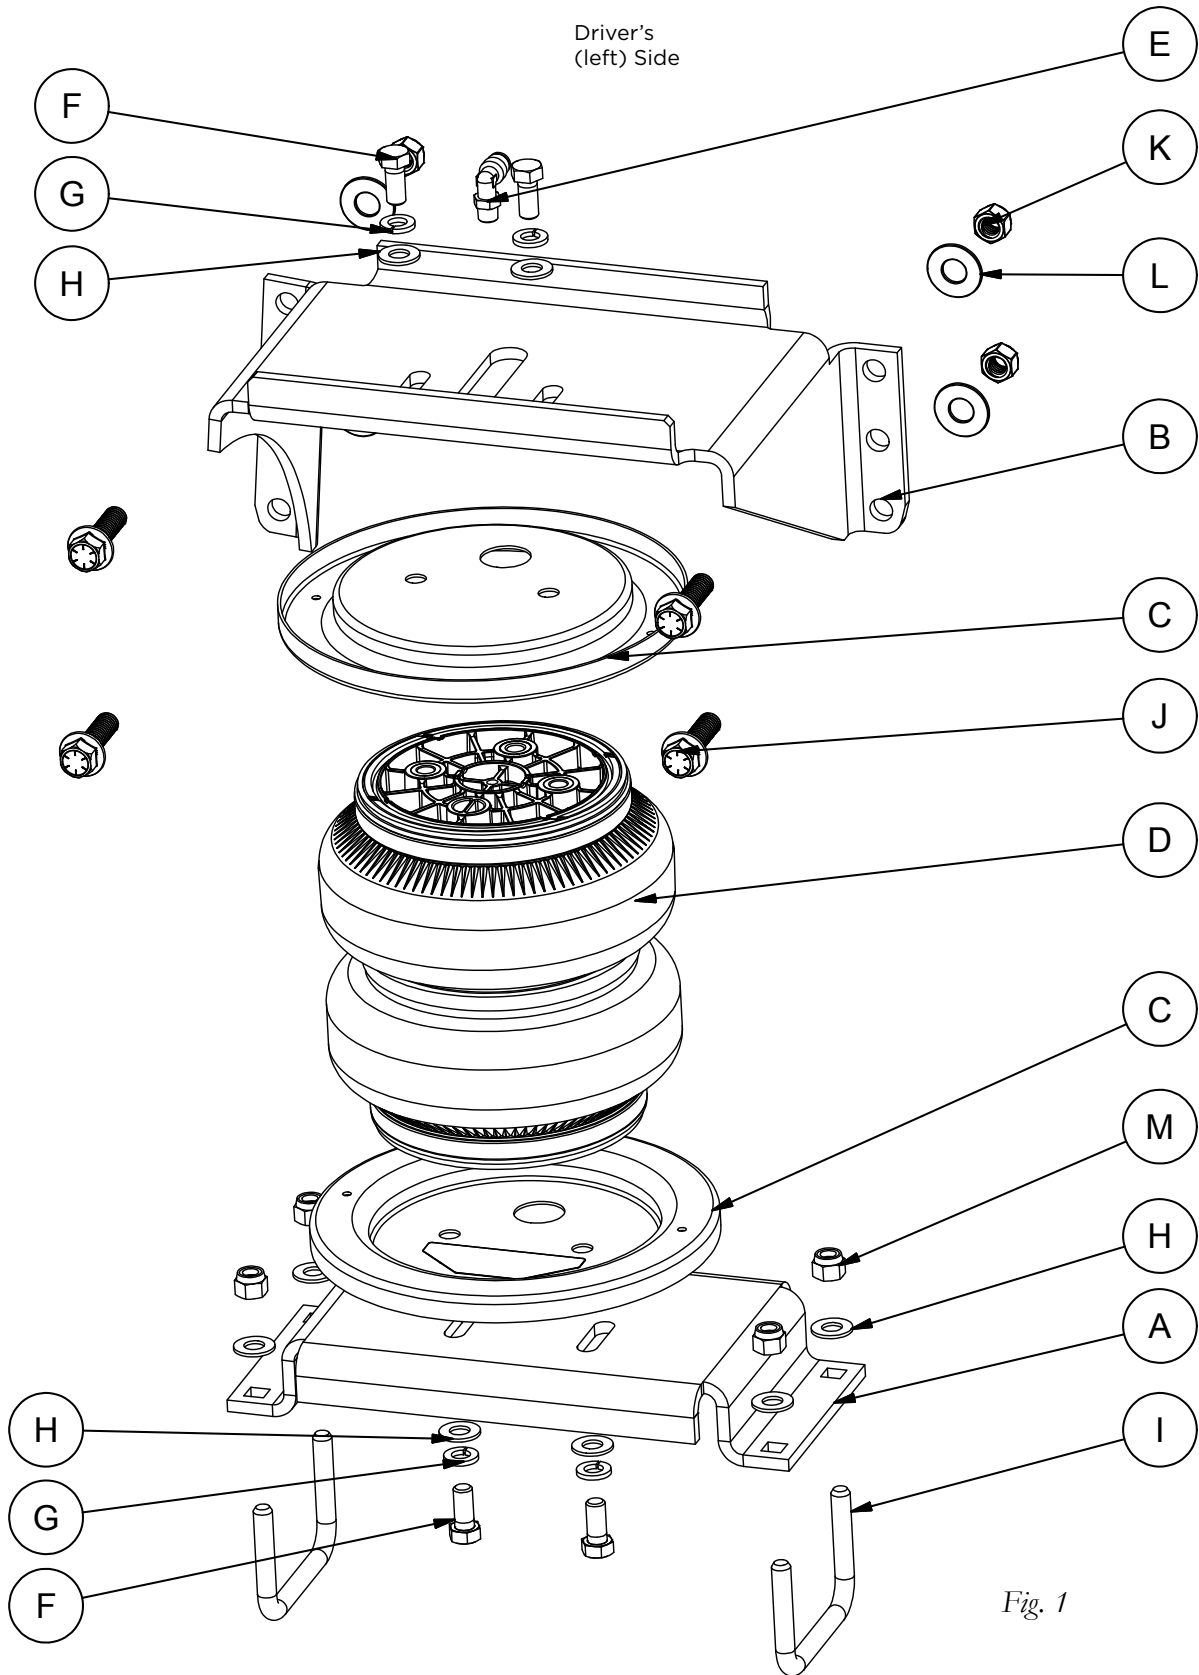

Fig. 1
- Insert the 7/16" hex flange bolts (J) through the upper brackets, frame, and cap with 7/16" large flat washer (L) (forward of axle only) and 7/16" nylon lock nut (K) (Fig. 1). Snug the hardware only at this point. Again, ensure the X and Y are equal distances and use the remaining holes in the bracket as a template. Drill the remaining holes in the locations pointed out in section four. Install the remaining hardware, and torque all upper brackets to the frame hardware to 70 lb.-ft. (60Nm). Secure any lines or wires away from the hardware installed inside the frame rails.